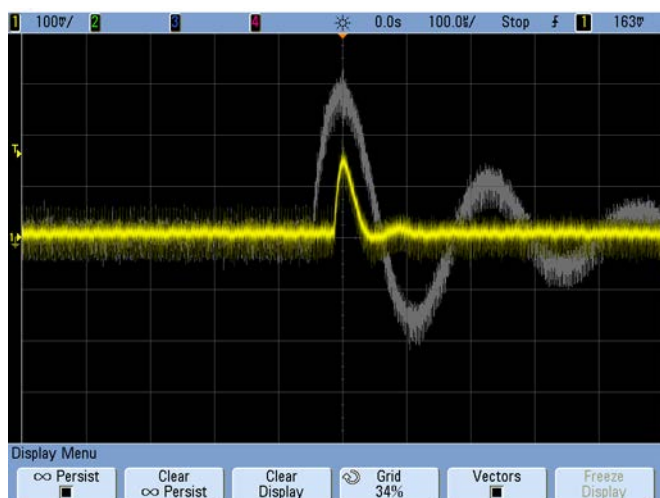

Figure 35. LTC3886 Adjustable Loop Step Response
- 5) Observe that you can drive the loop between instability and well-damped response simply by adjusting these registers (Figure 35).
In Figure 35 we see the voltage step response at IBV_8V for a tuned loop (yellow) and a detuned loop (gray).